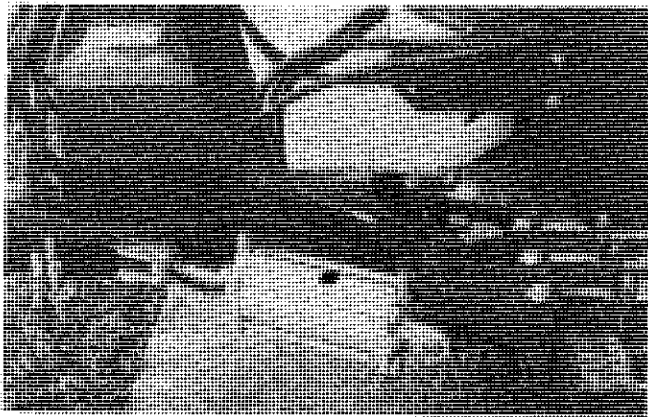

FIGURE 39 - HITCH INSTALLATION
Attach hitch assembly to pivot point on main frame using pivot pin, slotted nut and cotter pin (see figure 39). Attach the PTO to the front input shaft using a 3/8" x 2" square key, a 3/8" x 1-1/4" square head set screw with jam nut and a 3/8" x 4" hex bolt and 3/8" lock nut. Install PTO shield with four (4) 1/2" x 1-1/2" hex bolts, four 1/2" lock washers and four (4) 1/2" nuts. Install hose carrier (loop toward hitch centerline) to the hitch assembly with two (2) 3/8" x 1-1/2" hex bolts, two (2) 3/8" lock washers and two (2) 3/8" nuts.